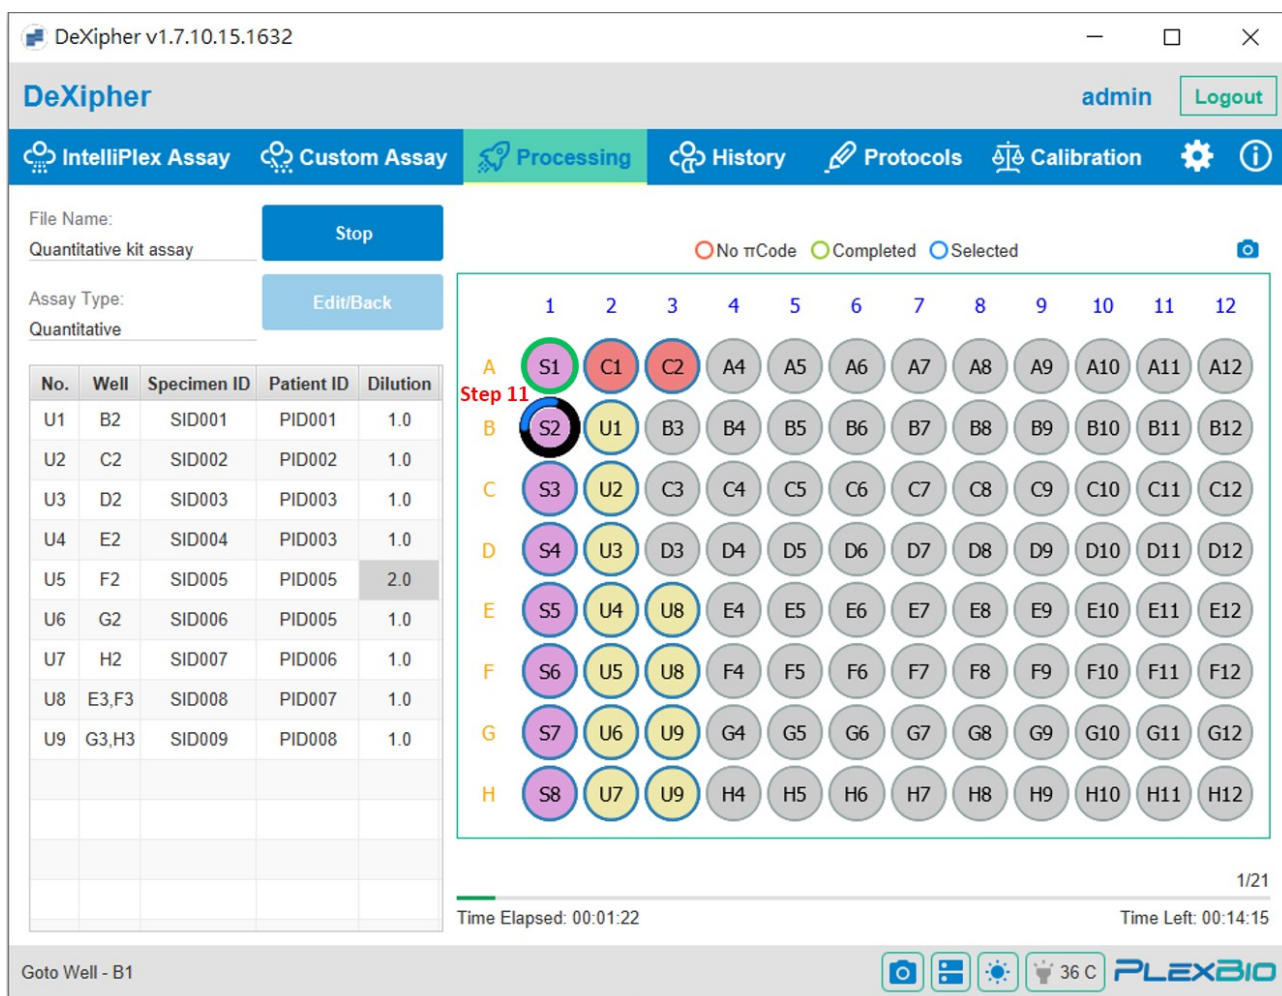

Fig. 19. IntelliPlex Assay - Processing - Run Status
- Step 11. PlexBio 100 Fluorescent Analyzer starts to read selected wells (Fig. 19).